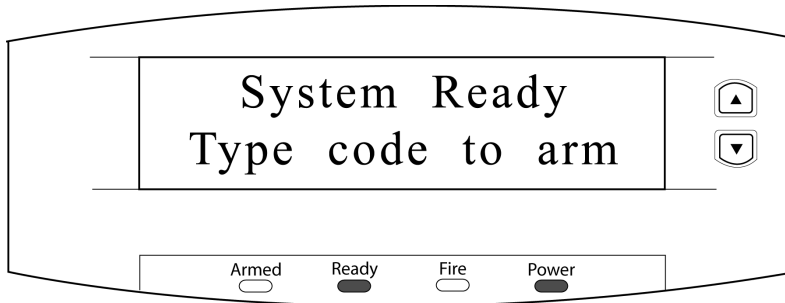

Figure 2: Alarm Panel - System Ready
1. When the alarm control panel is first powered up, the LCD shows the following message (see Figure 2).
- Select the  key to save the selection and return to the Alarm Panel - Enter Location screen. The alarm panel is now configured to work in connection with the PXL-510. Select the “Exit” button and the LCD displays the System Ready message (see Figure 2 on page 2).